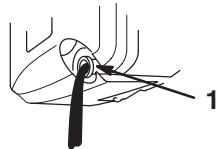

Figure 23
5. Tip the lawn mower onto its **left** side, allowing the oil to drain into the drain pan (Fig. 23).